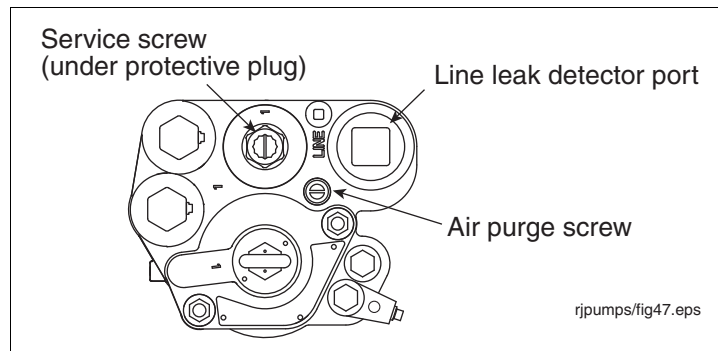

Figure 36. Locating Discharge Port Plug For Line Leak Transducer
2. Remove and save the protective plug over the service screw and turn the screw clockwise (see Figure 36). As the screw approaches its bottom position, you will hear the system depressurizing. Continue turning the screw until it can go no further. When the screw is all the way down, backoff the screw 4 turns to lift the check valve and let the fuel drain out of the manifold's hydraulic cavities.
6. Open the air purge screw 2 - 3 turns counterclockwise (see Figure 36).